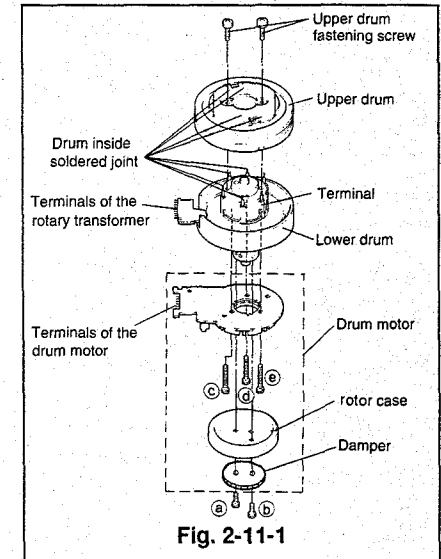

Fig. 2-11-1
- ② Unsolder the terminals of each head on the upper drum.
- ③ Remove the screws holding the upper drum shown in Fig. 2-11-1.
- ④ Remove the upper drum slowly and carefully.
- ⑤ Remove the screws (a and b) shown in Fig. 2-11-1 to remove the rotor case and damper. Remove the screws (c, d and e) to remove the drum motor.